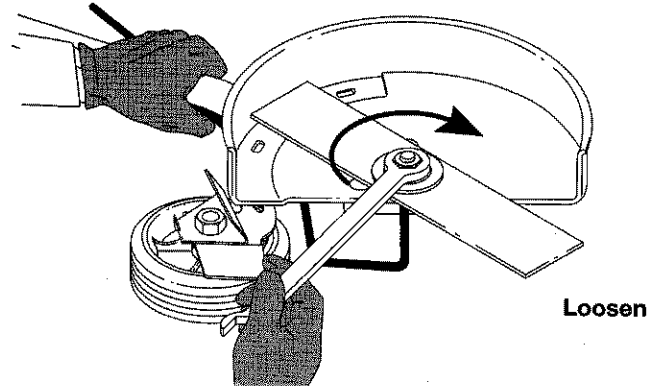

Fig. 32
3. While holding the locking rod, loosen the nut on the blade by turning it **clockwise** with a 5/8 inch wrench (Fig. 32). Remove the nut, retaining washer and blade. Keep the nut and blade retainer for installation.